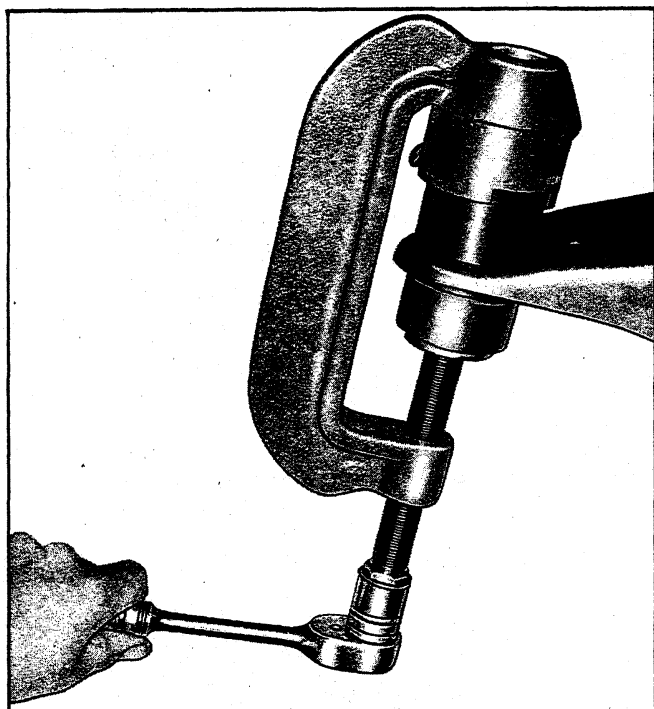

Fig. 28 - Installing Lower Ball Joint - Chevelle & Camaro
1. Start the replacement ball stud into the control arm and install Tools J-9519-10, J-9519-16 and J-9519-17 as shown in Figure 28.